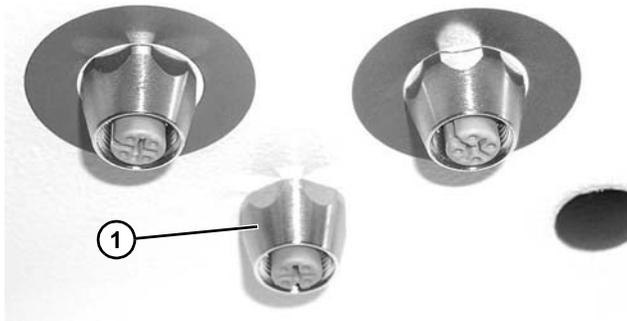

**Figure 50**
2. Connect push button unused accessory port (**Figure 50, item 1**).